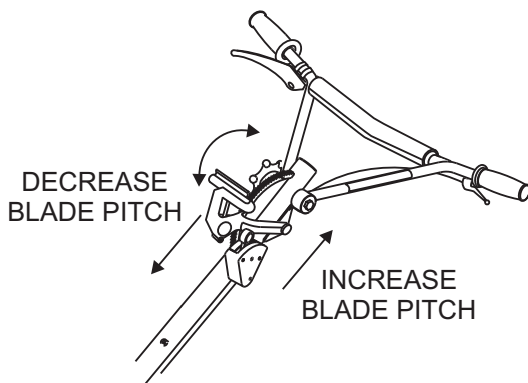

Figure 29. Quick-Pitch™ T-Handle
1. To pitch the blades upwards using the "*Quick-Pitch™ T-handle*", (Figure 29) simply squeeze the trigger lock and pull the *T-handle* towards the operator. Pushing the *T-handle* towards the engine will cause the blades to lay flat.